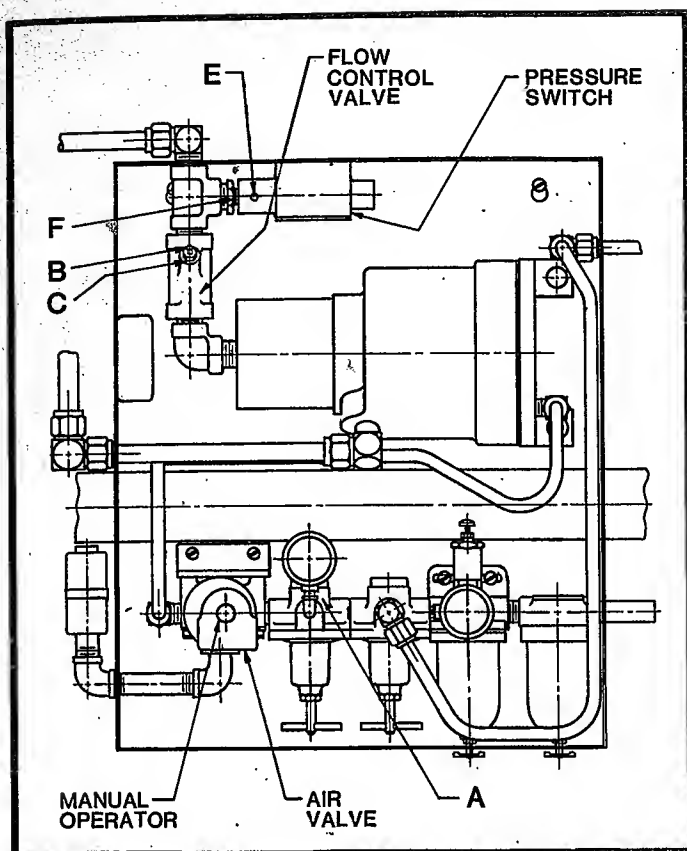

FIGURE 122
3. Set air pressure regulator "A" (Figure 122) to 60 p.s.i. air pressure.
- D. Depress the manual operator on the air valve (Figure 122) to build-up oil pressure in the holddown system. The pressure switch should not change state (contacts should not close). Turn adjusting screw "F" in increments of one-quarter turn until the pressure switch contacts change state (close).
- G. Reset air pressure regulator "A" (Figure 122) to 70 p.s.i. air pressure.
- A. Hold adjusting stem "B" and loosen nut "C" of flow control valve (Figure 122).